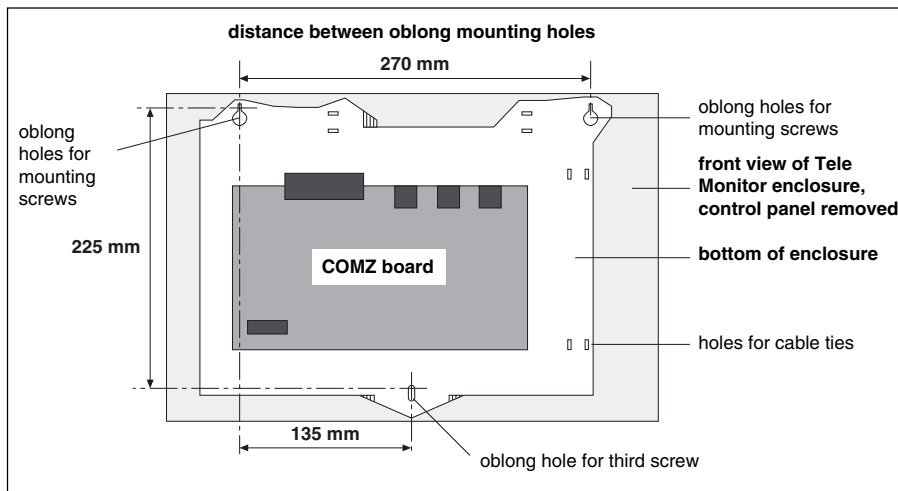

Fig. 6
- ▶ hold the enclosure against the vertical surface and mark the position of the screws (at the top of the oblong holes shown in figure 6);
The "Tele Monitor" connections consist of connector XR081 and terminal blocks XR82, XR83 and XR84 located on the "COMZ" board at the bottom of the enclosure (refer to figure 6 and 7):